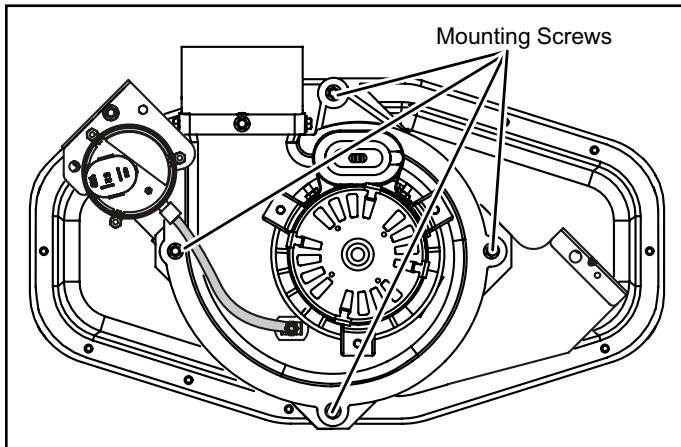

Figure 16. Mounting Screws Location
1. Remove the four mounting screws which secure the combustion air inducer / pressure switch assembly to the orifice plate. See Figure 16. Lift and rotate the assembly 90 degrees clockwise or counter clockwise to either the 3 o'clock position or to 9 o'clock position and re-secure with four screws. Gasket should be left in place.